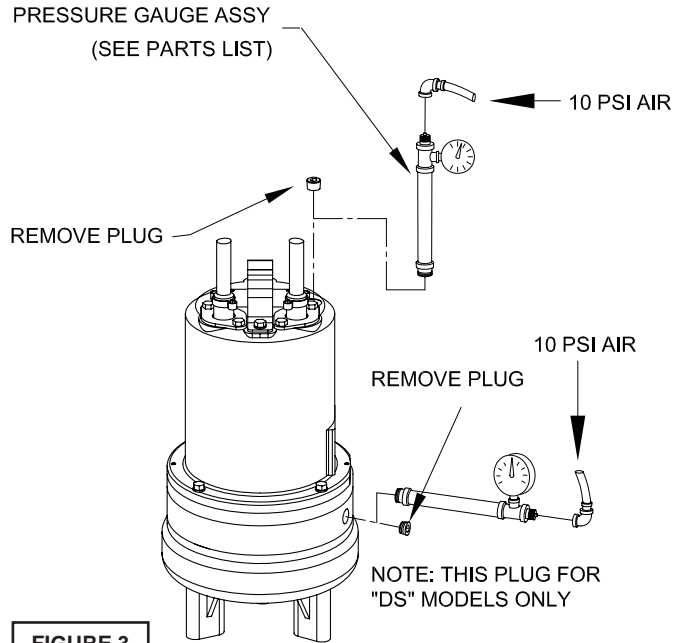

FIGURE 3
Pumps that have been disassembled, Motor Housing - If the pump has been disassembled, the oil should be drained before a pressure test, as described in paragraph 1.1. Remove pipe plug (39) from motor housing (6). Apply pipe sealant to pressure gauge assembly and tighten into hole (See Figure 3). Pressurize motor housing to 10 P.S.I. Use soap solution around these sealed areas and inspect joints for "air bubbles". If, after five minutes, the pressure is still holding constant, and no "bubbles" are observed, slowly bleed the pressure and remove the gauge assembly. Replace oil as described in paragraph 1.4. If the pressure does not hold, then the leak must be located and repaired.
The pressure test may be done with the oil at its normal level. Remove pipe plug (39) from motor housing (6). Apply pipe sealant to pressure gauge assembly and tighten into hole (See Figure 3). Pressurize motor housing to 10 P.S.I. Use soap solution around the sealed areas above the oil level and inspect joints for "air bubbles".